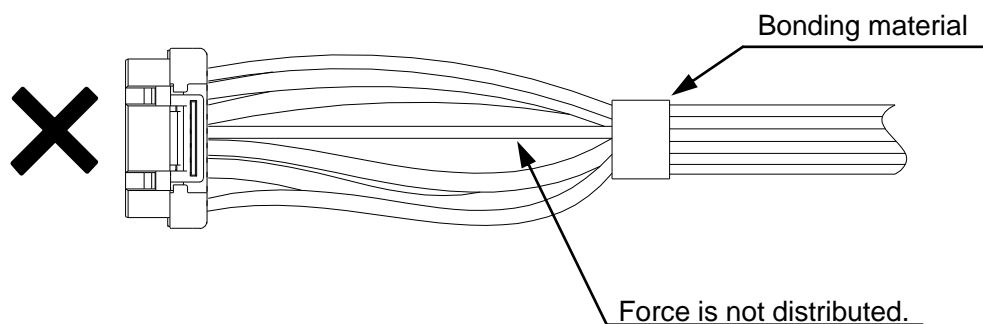

Fig.6 Not correct bonding condition
- ② Please bond so force is distributed. (See Figure 6)